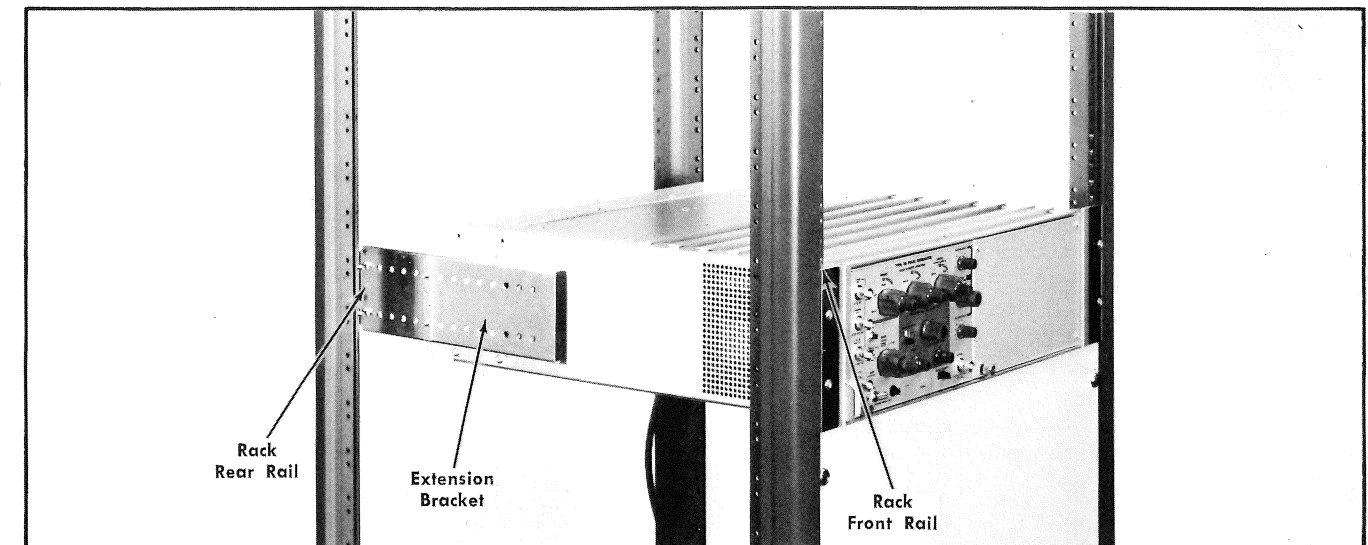

Fig. 2-3. Rack Adapter mounted in a rack.
1. Attach a rear mounting bracket to each side of the rack adapter (see Fig. 2-3).